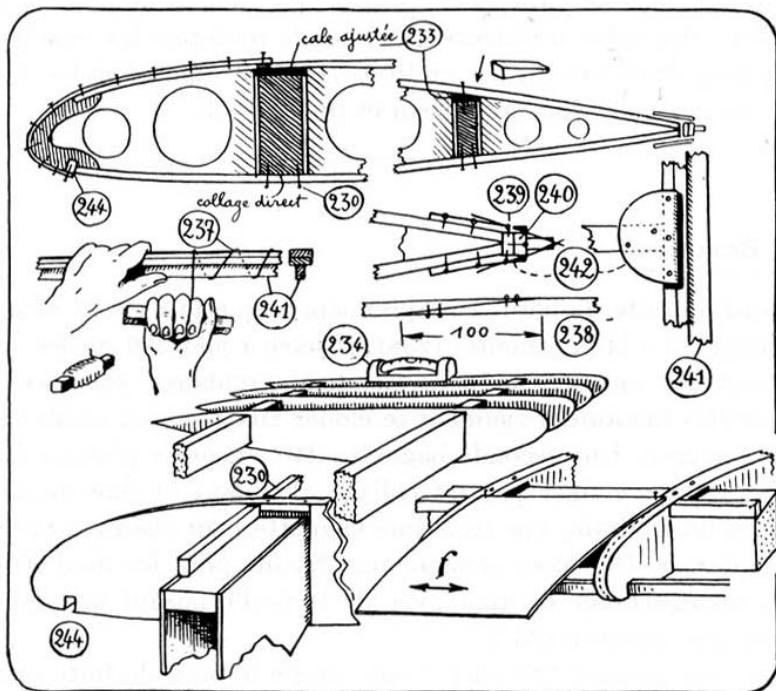

Figure 4.6: Assembling the wings
²This refers to (230) at the bottom of Figure 4.6, not the one at the top.